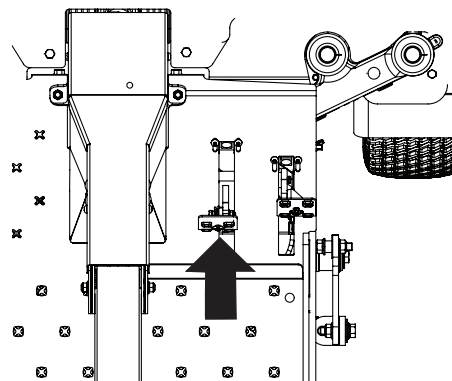

Figure 28
1. Slowly push the forward drive pedal forward. The mower will start to move forward (Figure 28).